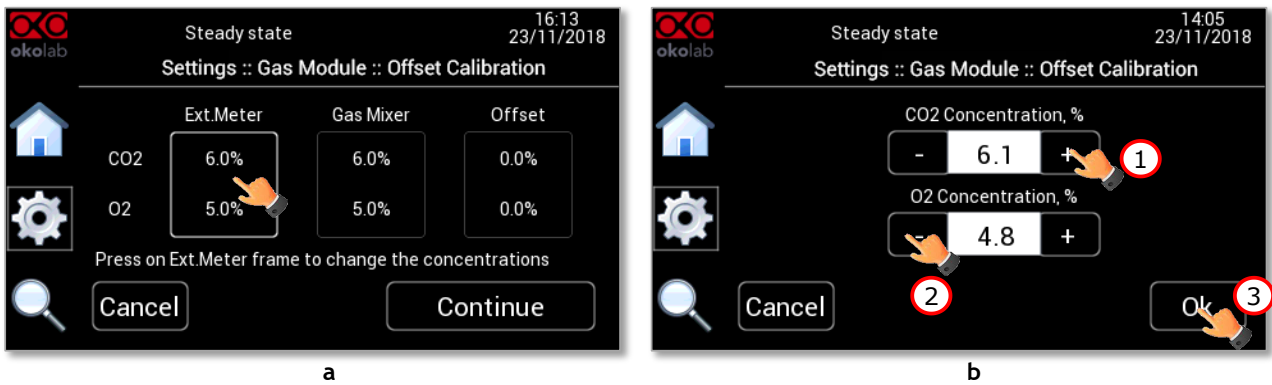

Figure 43. Manual Calibration (a - b).
7. In the open page, press on the *External Meter* Tab (as shown in Figure 43 a). The Figure 43 b appears.
- Press on +/- icons to input the CO₂ (1 in Figure 43 b) and O₂ (2 in Figure 43 b) compositions read by LEO (i.e. 6.1% for CO₂ and 4.8% for O₂), then press Ok (3 in Figure 43 b).